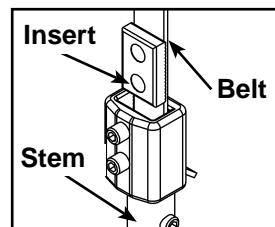
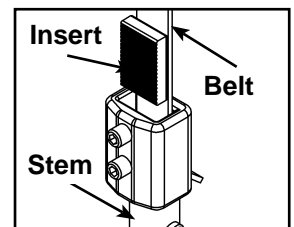

Figure 8A
Figure 8B
- C. Slide belt through slot in belt clamp. Verify belt and insert are installed properly, as shown in Figure 8A. **NOTE:** Do not install the insert backwards as shown in Figure 8B.